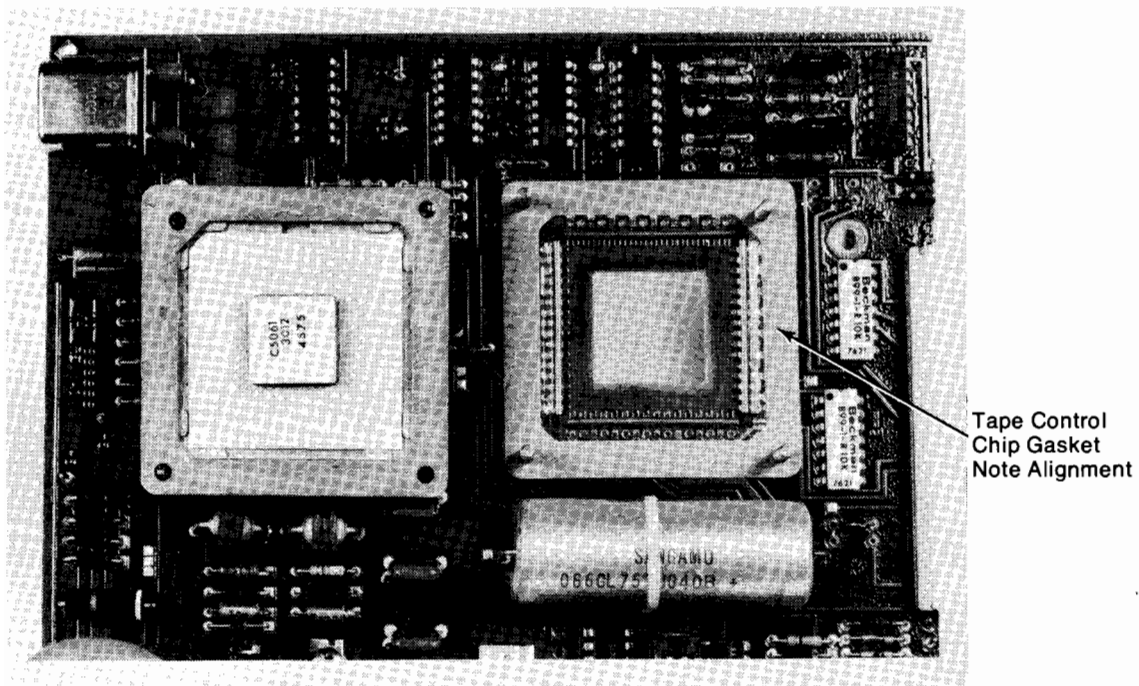

Figure 4-16: Tape Control Chip Gasket Alignment
5. Install the connection gasket as shown in Figure 4-16. The shiny side of the gasket should be next to the P.C. board.